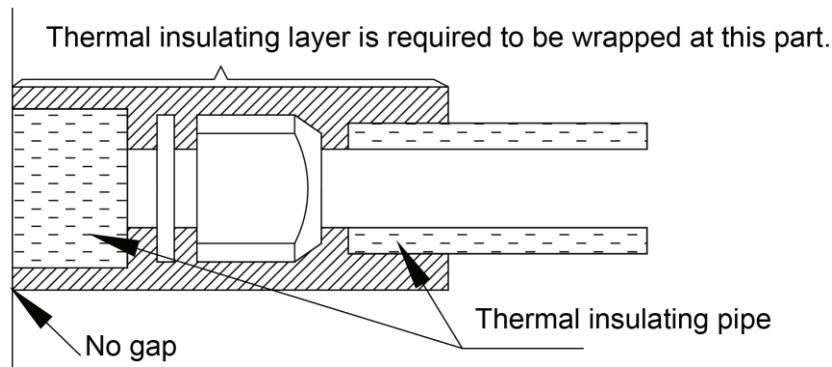
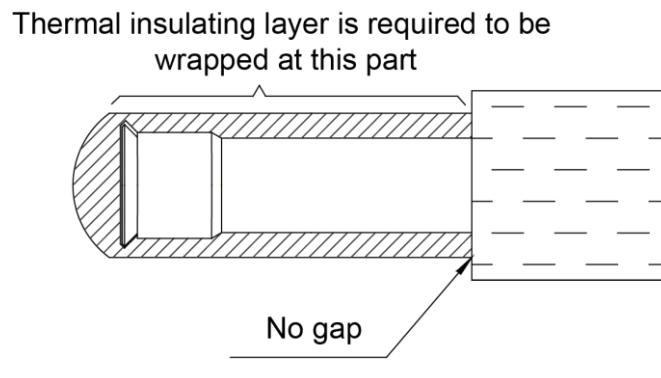
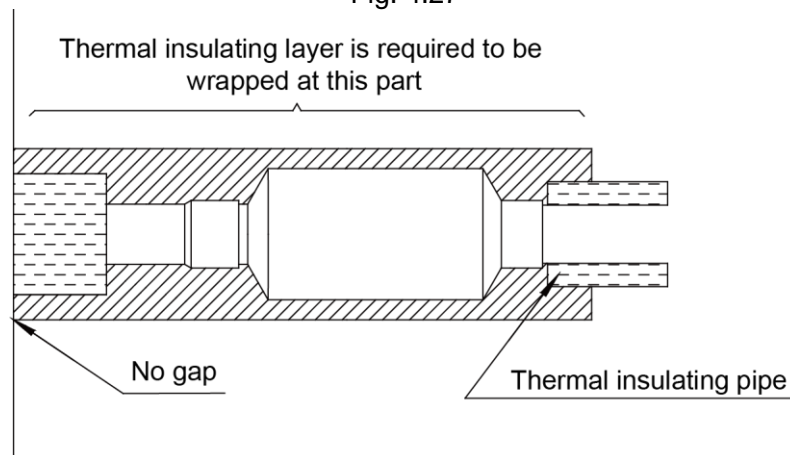

Fig. 4.26
Fig. 4.27
Fig. 4.28
- 3) Joints of indoor and outdoor unit should be wrapped with insulating material and leave no gap to surfaces of indoor unit and outdoor unit. See Fig. 4.26, Fig. 4.27 and Fig. 4.28.